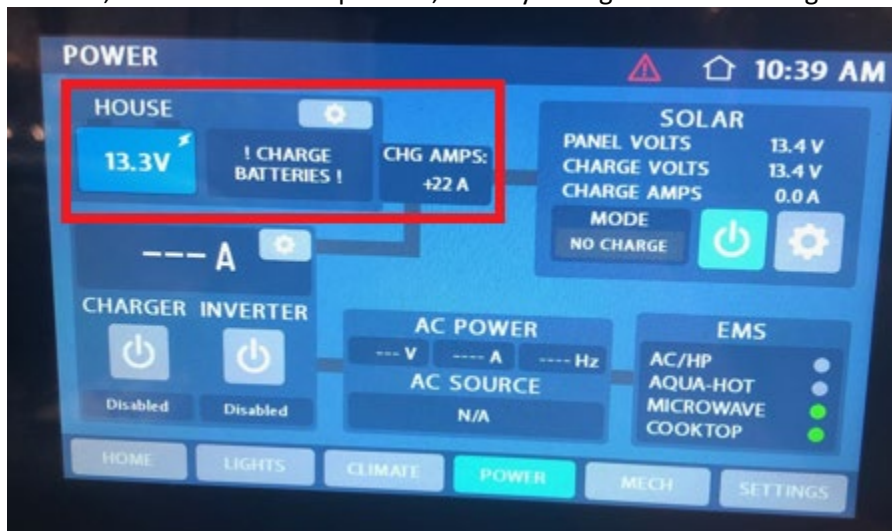

Figure 16
20. Hold the accelerator pedal to where RPMs are at 1200 or a little higher and check display screen. After a few seconds, CHG AMPS will be positive, battery voltage will be blue. Figure 16